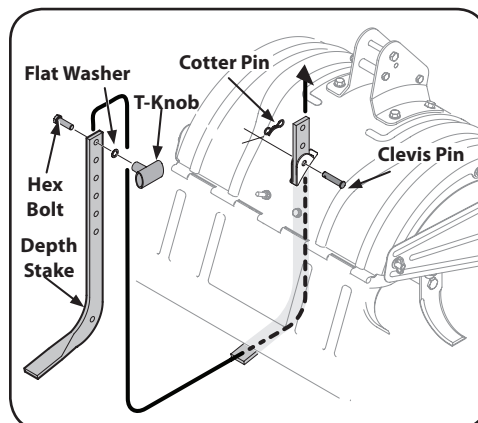

Figure 2-1
2. Un-thread the T-knob from the top of the depth stake and remove the flat washer and hex bolt. Remove the cotter pin from the clevis pin. See Figure 2-1.
5. Insert the hex bolt into the top hole of the depth stake assembly. Place the flat washer on the hex bolt and thread the T-knob onto the hex bolt. Tighten securely. See Figure 2-1.